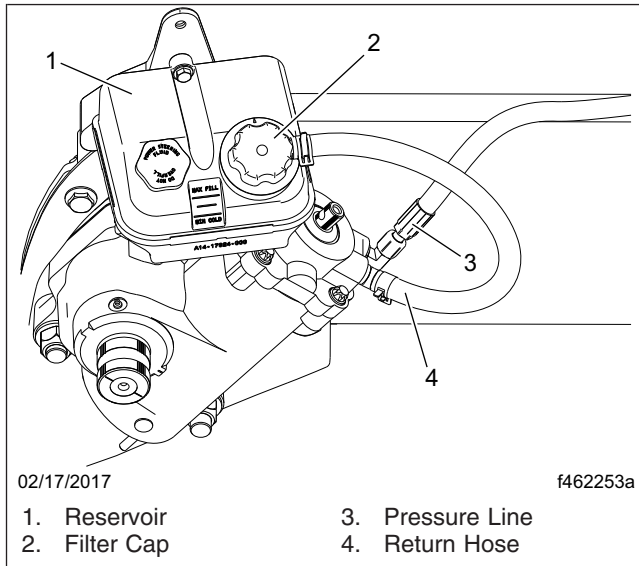

Fig. 1, Power Steering Reservoir
7. Remove the pressure line and return hose (see **Fig. 1**) from the steering gear and allow the oil to drain.
needed to maintain the fluid level between the MIN COLD and MAX HOT lines. See **Fig. 1**. See **Table 1** for approved power steering fluids.